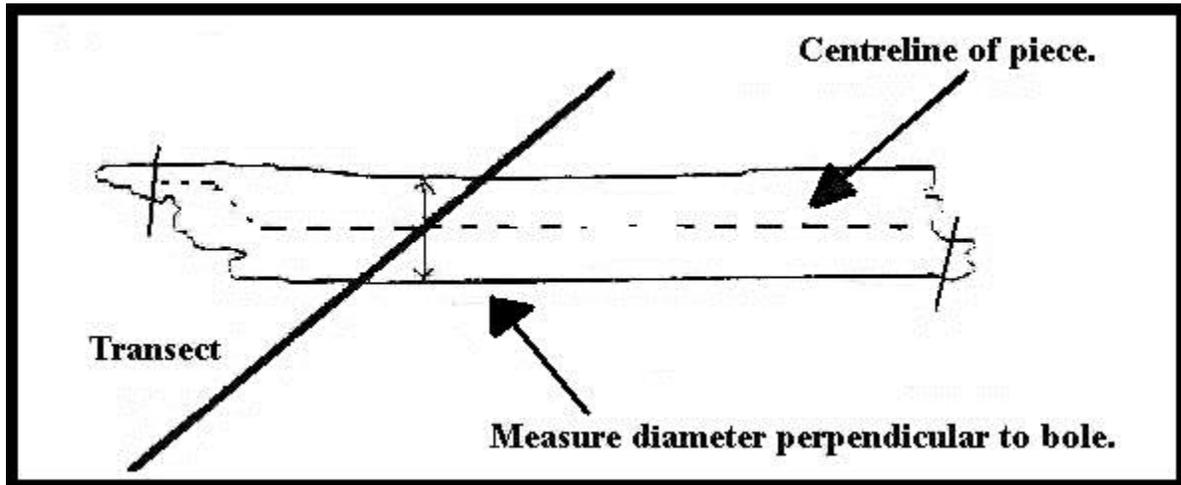

Figure 1. The diameter is measured perpendicular to the bole of the CWD at the point where the transect crosses the CWD.
- The diameter is taken perpendicular to the centre line of the CWD at the point where the transect crosses the CWD (see figure 1).